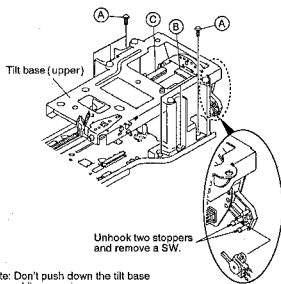
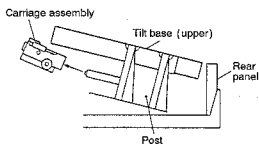

Fig. 5
Fig. 6
- Disconnect two connectors (B) and (C) from the CNNB assembly to remove the flexible cable (Fig. 5).
- Remove six screws (A) from the post (L) and (R) to remove the tilt base.
- Pull out the carriage assembly by setting the tilt base (upper) toward the upper (Fig. 6).